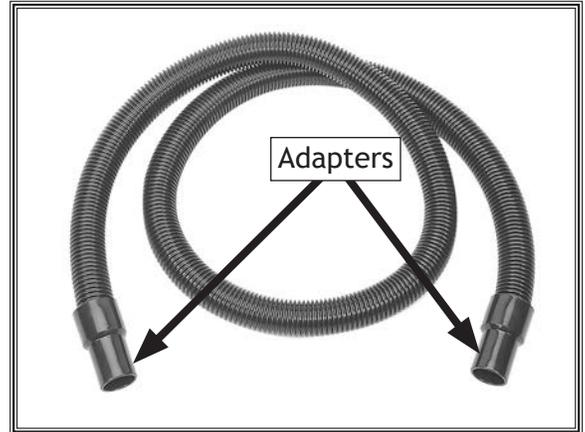

Figure 36. Adapters attached to dust hose.
1. Attach a dust hose adapter to each end of dust hose (see Figure 36).